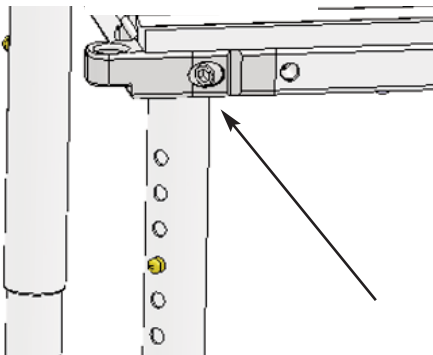

Figure 25
**C Fasteners:** Over time the screws and washers on the chair may become loose. It is very important that these are checked and securely tightened before each use. Failure to do so could cause a part to dislodge from the chair (Refer to Figure 25).